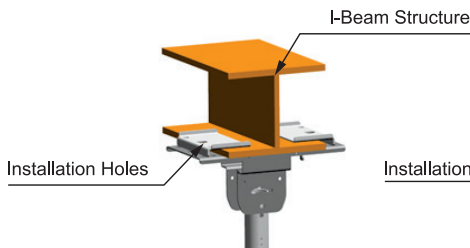

Figure. 1.2
① using two M10\*100 hexagonal bolts and nuts each side to fix the upper mount (see Figure 1.2 and 1.3)